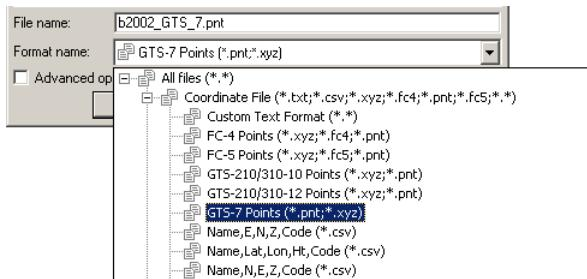

Figure 4-1. File Format
2. To select the file format, use the *Format name* drop-down list and select the file format, if known (Figure 4-1).